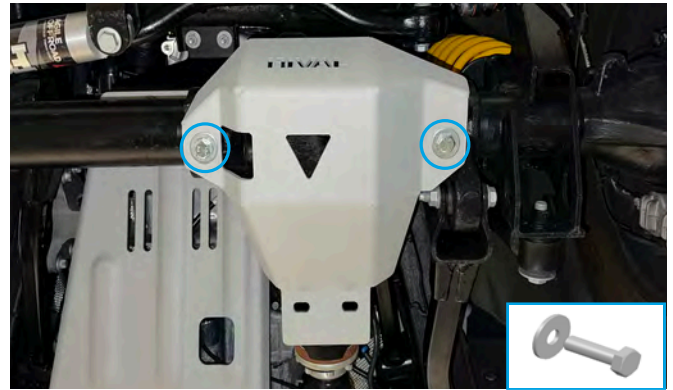

Fig. 2
2. Install the differential skid plate (item 1) and secure the front using M12x30 Hex Bolts and M12 Flat washers (items A, C) as shown in Fig.2.